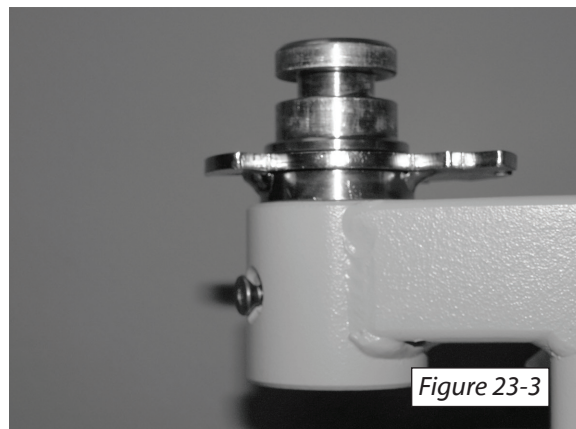

Figure 23-3
3. Insert and tighten the flanged screws from step 1 through the chassis and into the rooster. *[Figure 23-3 & 23-4]*